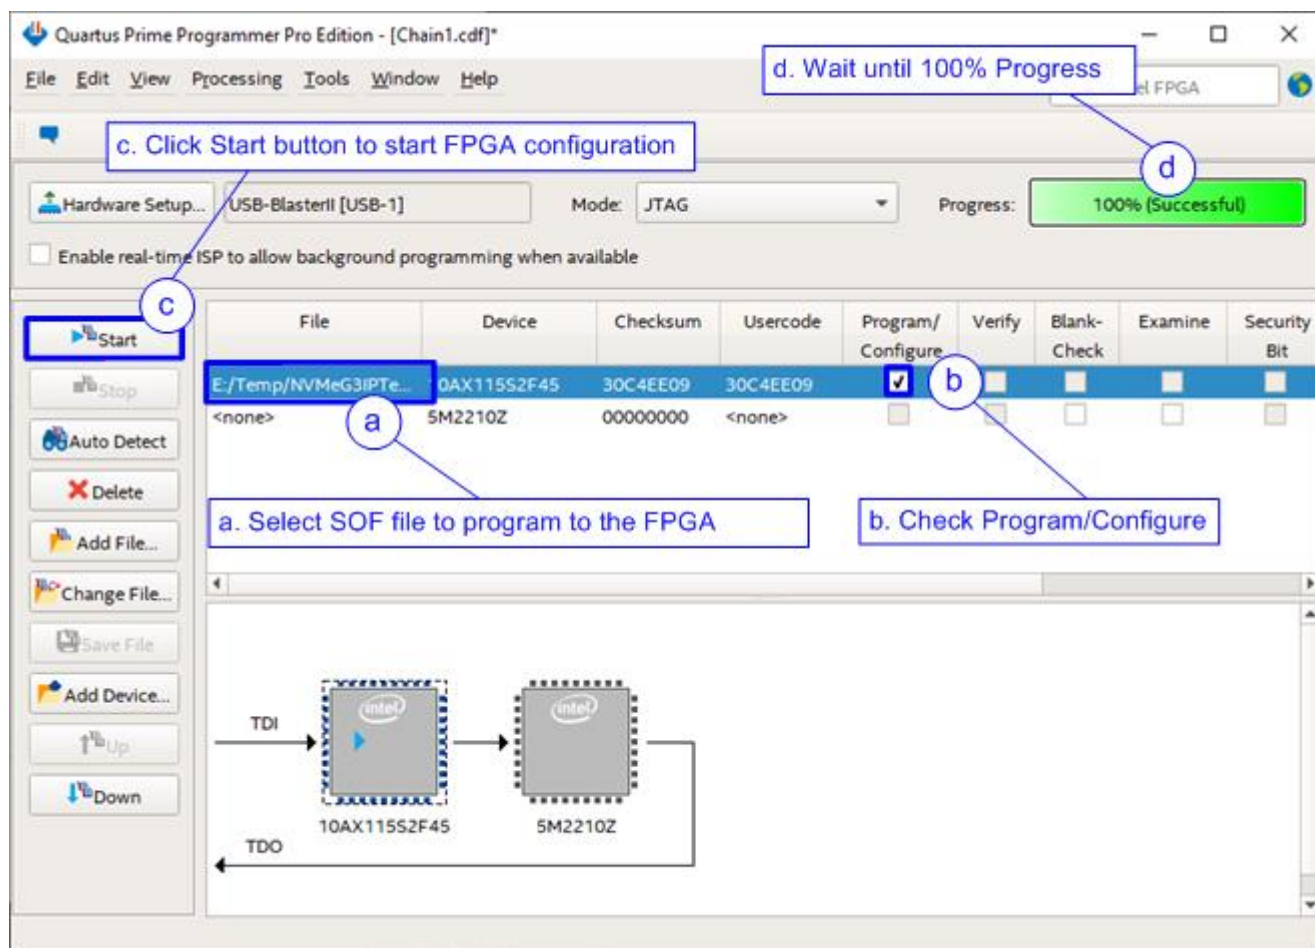

Figure 2-3 Programmed by QuartusII Programmer
- 1) Use QuartusII Programmer to program “NVMeG3IPTest.sof” file, as shown in Figure 2-3.